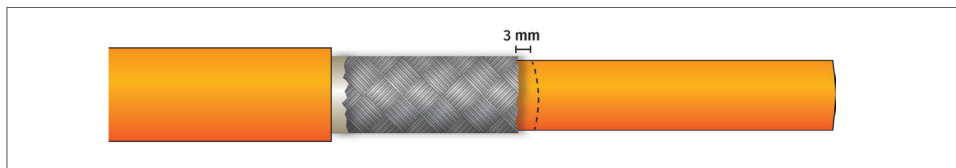

Fig. 8-9: Step 4: Marking the inner sheath
- ➞ Slide a 10 mm long piece of heat-shrink tubing over the HV power cable up to the mark (Fig. 8-9).